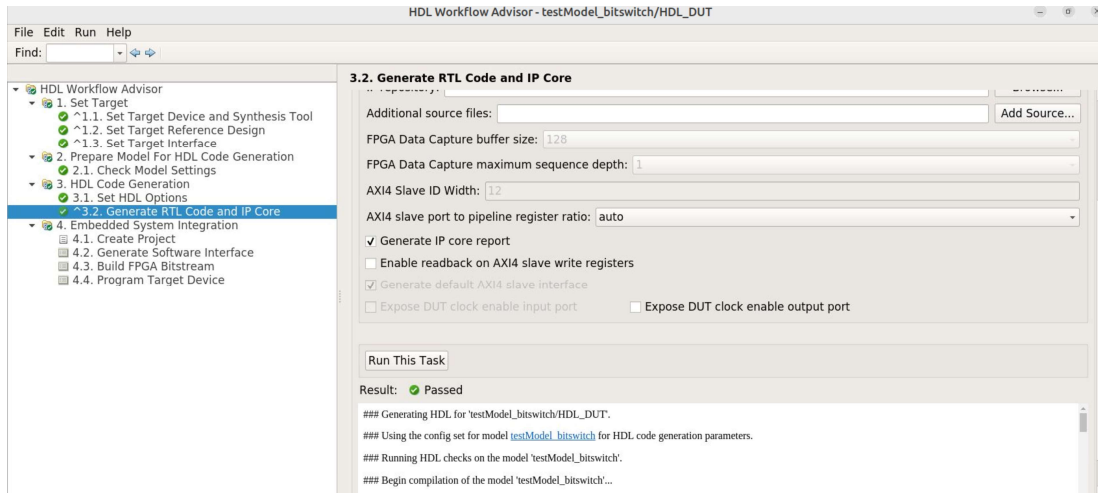

Figure 15. Generate RTL Code and IP Core.
3.2 Run the task, as shown in Figure 15.